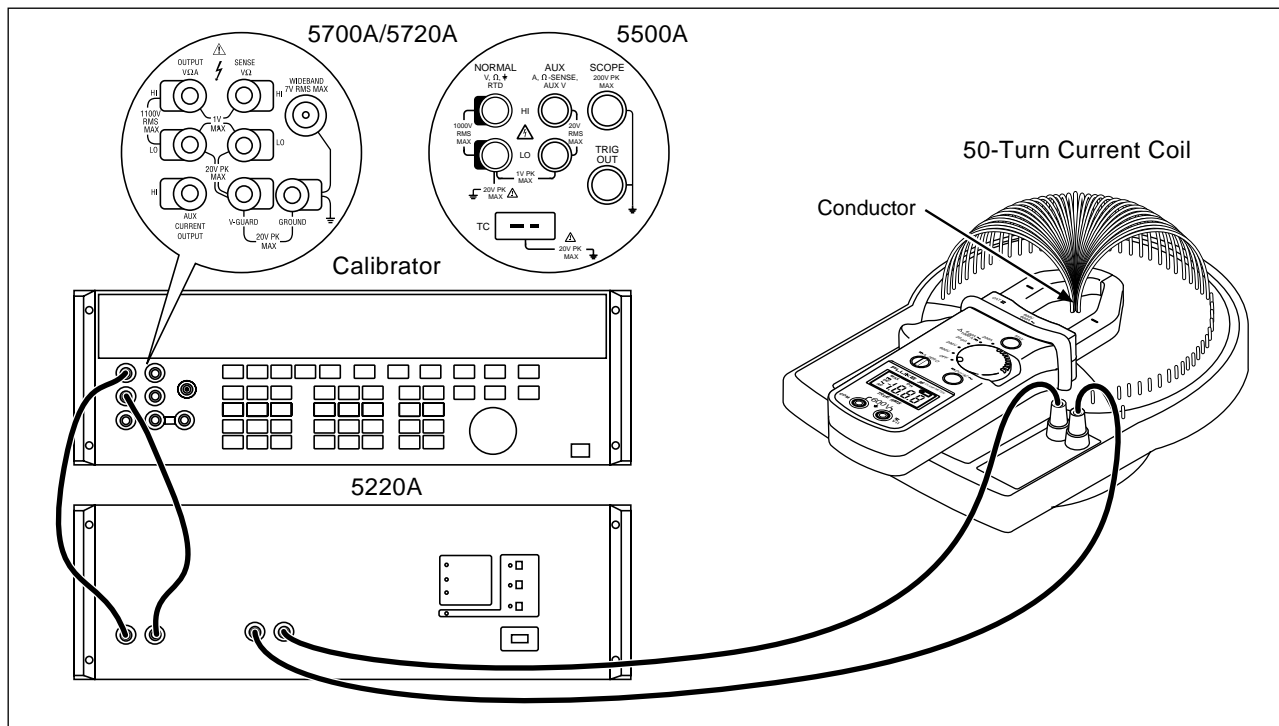

Figure 2. Equipment Connections for Current Calibration
1. Connect the 50-Turn Current Coil (hereafter referred to as the Current Coil) to the Transconductance Amplifier, and the Trans-conductance Amplifier to the Calibrator.(See Figure 2.)
1. Make sure that the Calibrator, Transconductance Amplifier, and Current Coil are connected as shown in Figure 2.